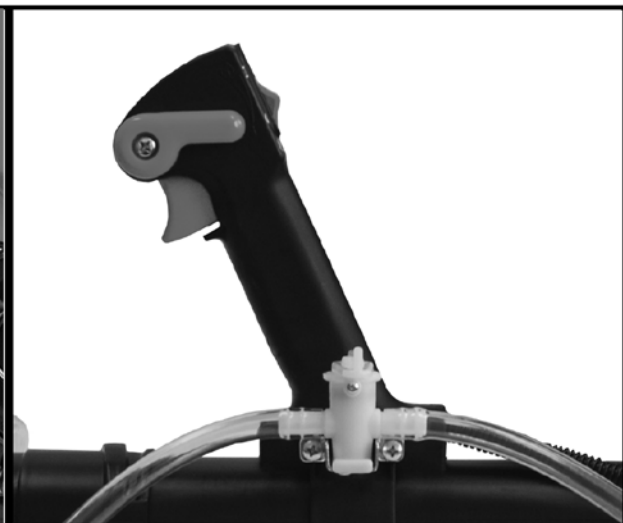

FIGURE 4
2. **Water Speed-** To adjust the speed of water use the accelerator to increase the engine's speed. See Figure 4.